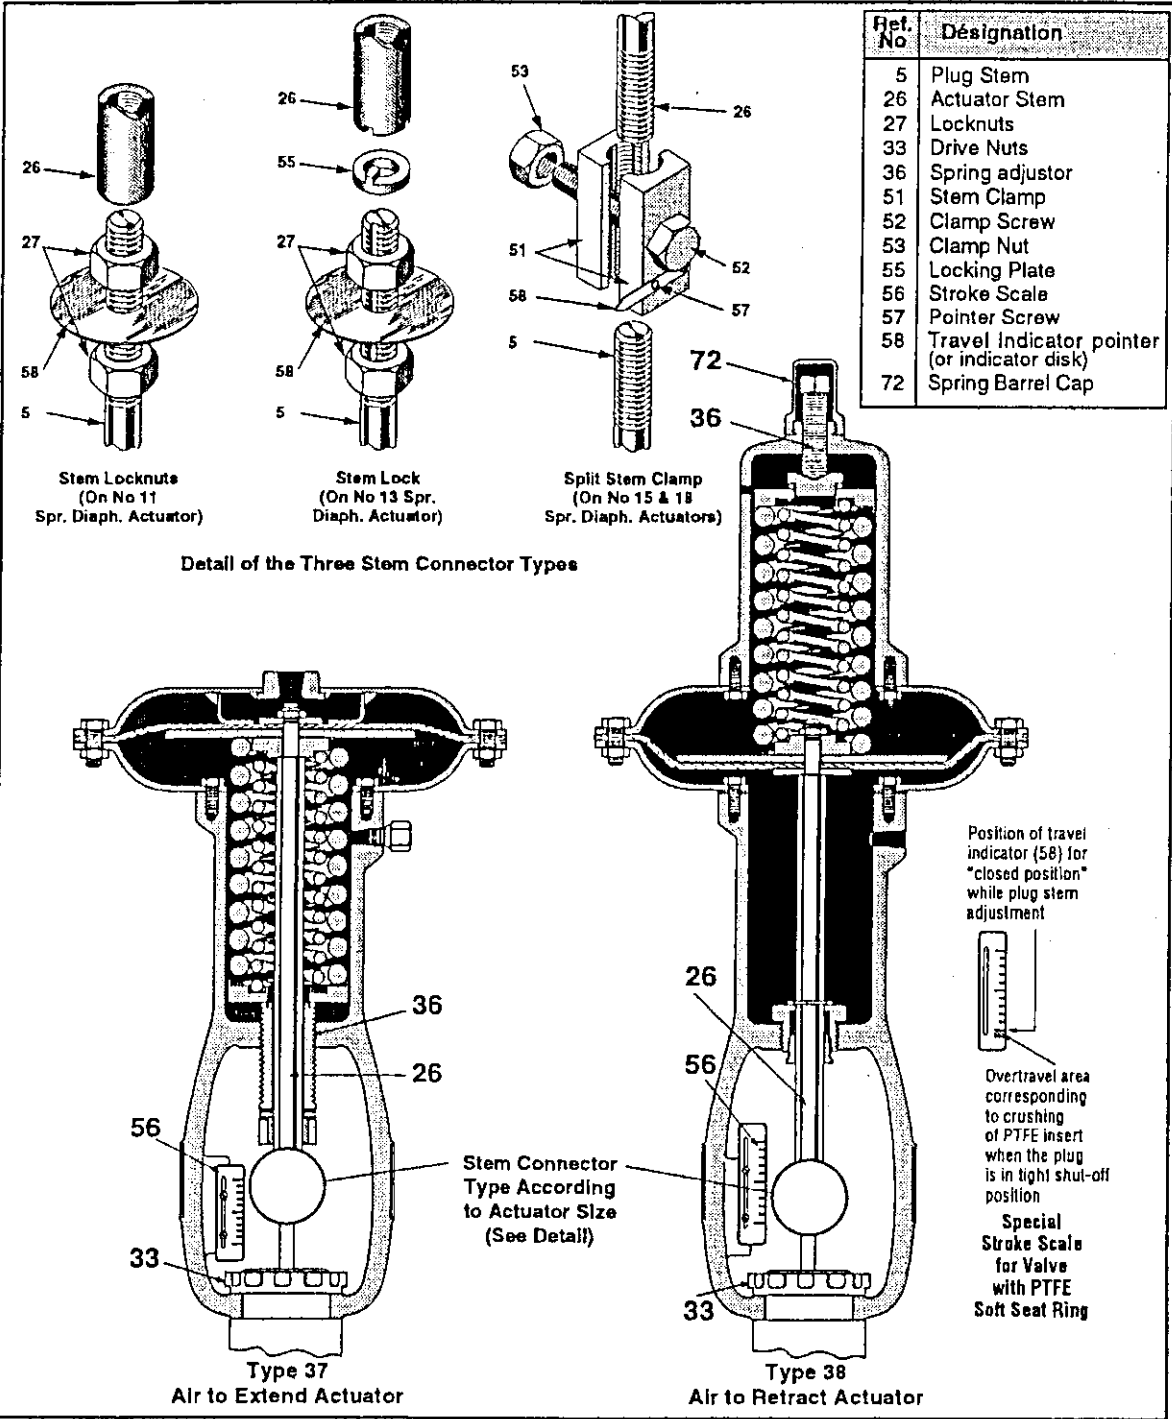

Figure 13
Nos 11 & 13 Actuators (Figure 13)
Nos 15 & 18 Actuators (Figure 13)
9.2 Spring(s) Adjustment (Fig. 13)
Nos 11, 13, 15 & 18, Type 37 Actuators (Figure 13)
Nos 11 & 13, Type 38 Actuators (Figure 13)
Nos 15 & 18, Type 38 Actuators (Figure 13)